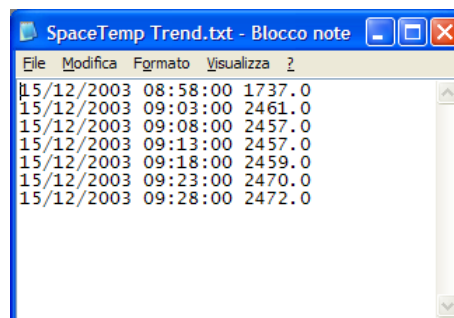

Figure 200: Trended Data to Notepad
**Note:** The imported textual data may be longer than the Excel cell width. In this case, the data appears as in Figure 200 with # characters. To see the actual data, you need to resize the column width.